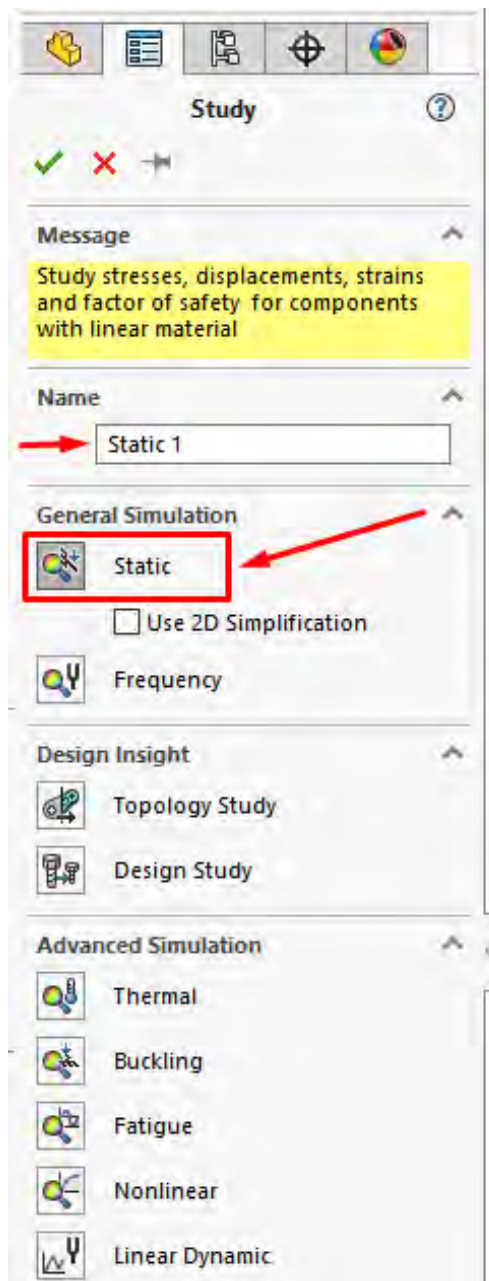
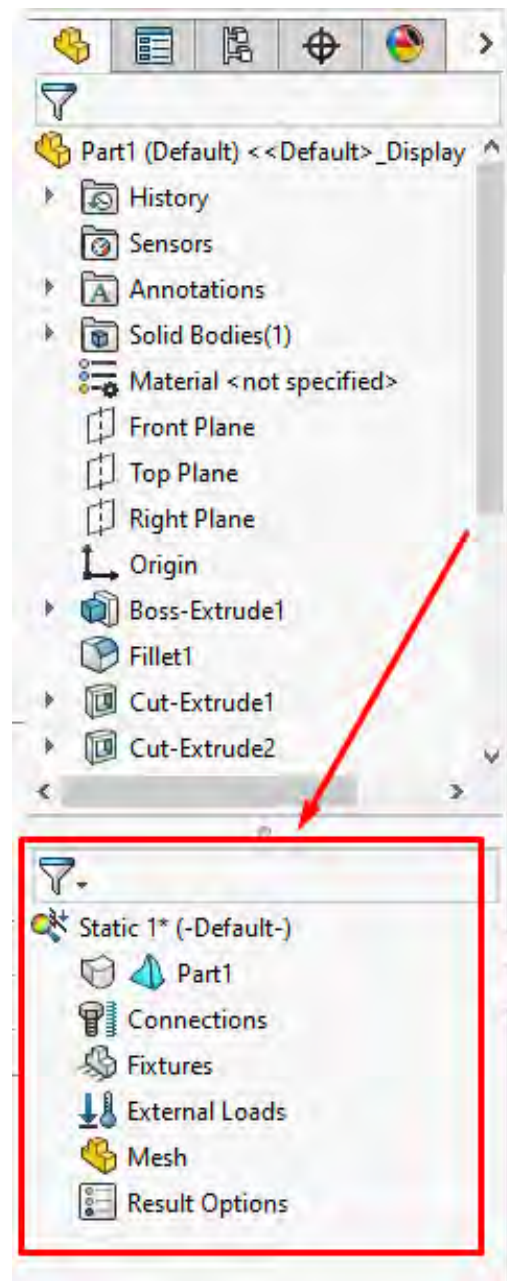

Figure 4 – Creating a new study
Figure 5 – Simulation research tree
3. In the PropertyManager (property pane on the left), under General Modeling (General Simulation) select the Static study type (Fig. 4).
5. Click the green checkmark (OK) to confirm the creation of the study.
6. in the Simulation study tree (located below the FeatureManager design tree) (see Figure 5).